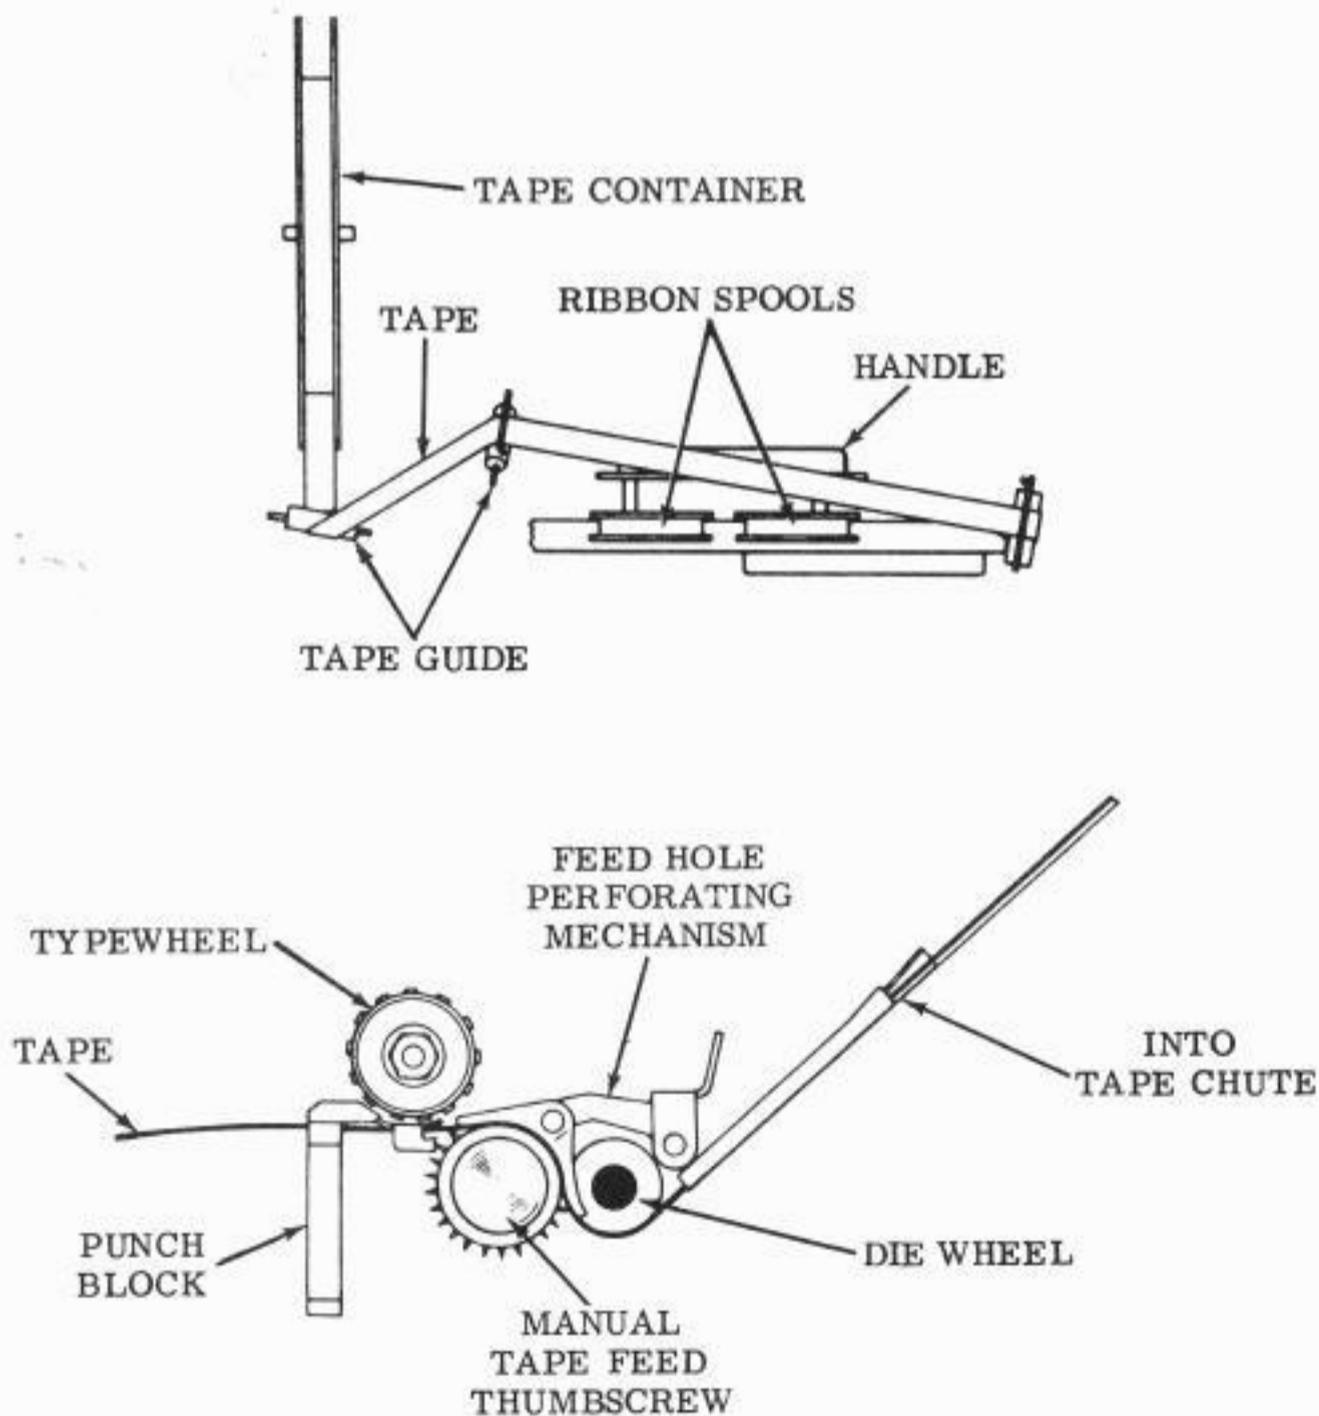

Figure 4 - Path of Tape
4.03 Thread the tape according to Figure 4. Threading is identical for all units within the typing reperforator mechanism, but the path from the tape container is adapted to the particular unit.